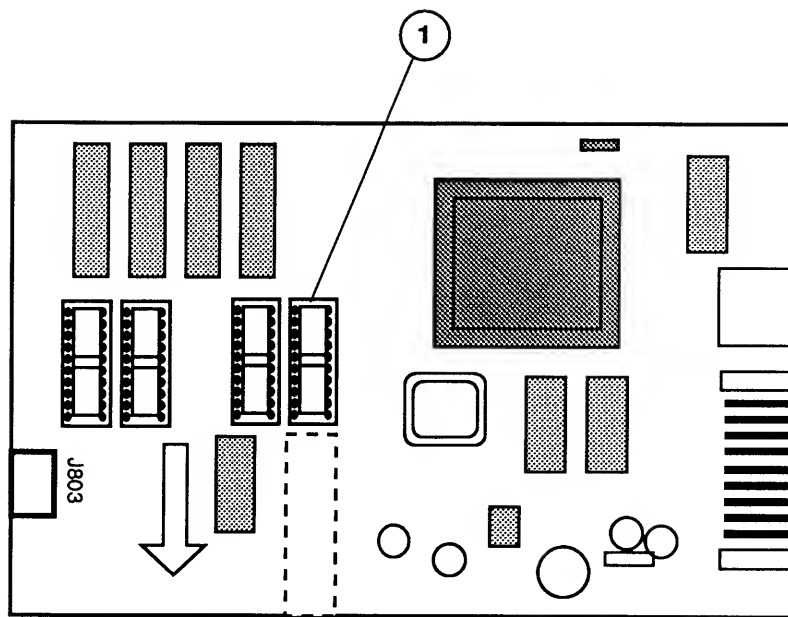

Figure 28
□ I/O BOARD – LW LS (Figure 28)